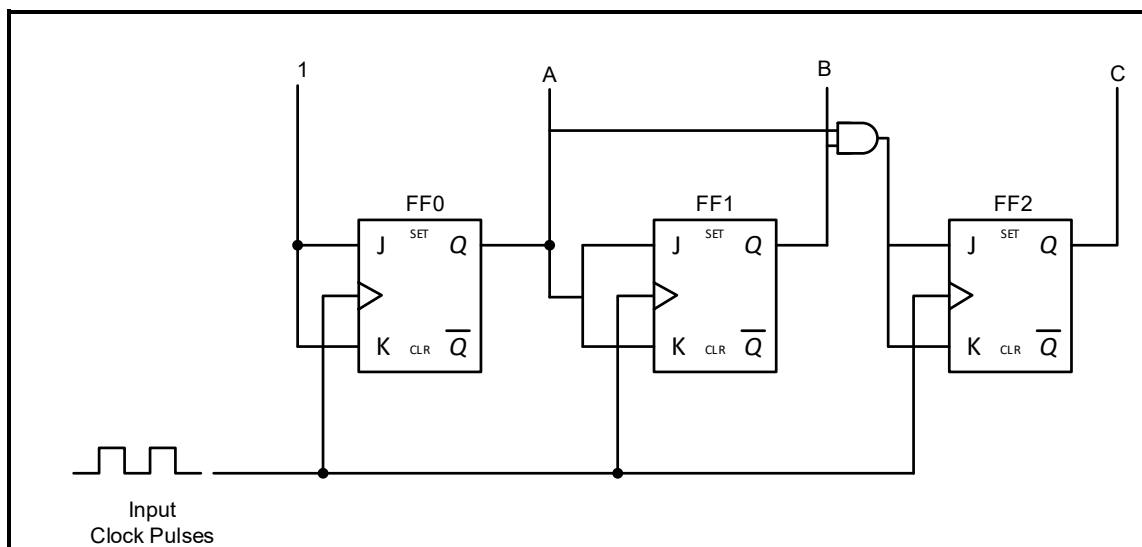

FIGURE 5.8: COUNTER
- 5.8 Refer to FIGURE 5.8 below and answer the questions that follow.
- 5.8.1 Identify the counter in FIGURE 5.8 above.
- 5.8.2 State whether the counter in FIGURE 5.8 above is counting up or down.